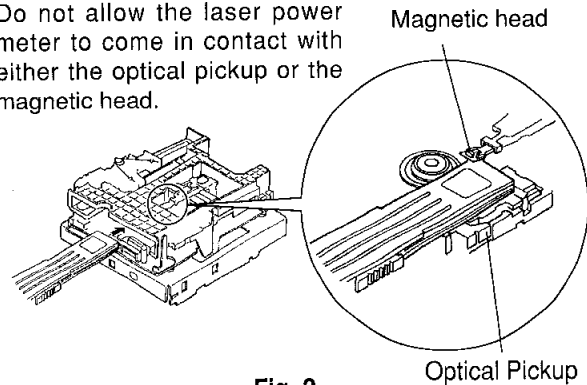

Fig. 2
3. If using a laser power meter, position the sensor directly above the optical pickup (see Fig. 2).